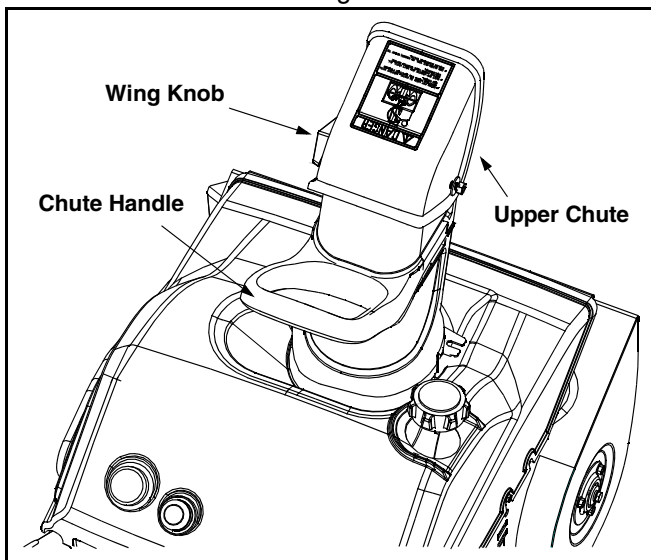

Figure 2
- Rotate the discharge chute to the left or right using the chute handle. See Figure 2.